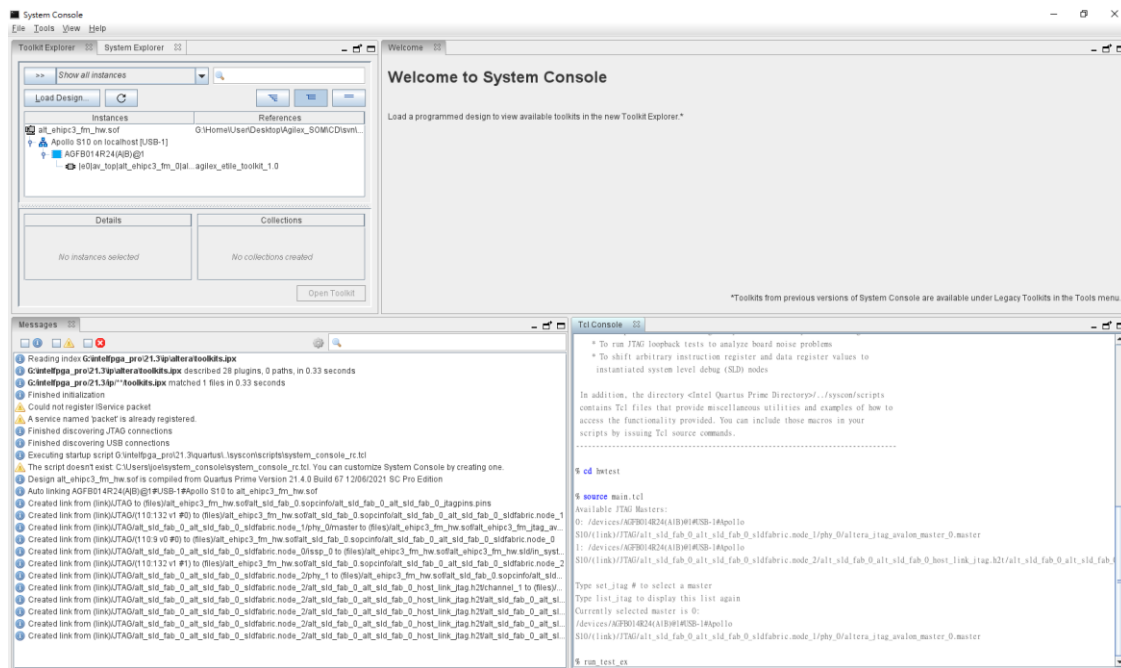

Figure 2-22 Launch the System Console for Ethernet 100G Demo
5. In the System Console window, input the following commands to start the loopback test, as shown in **Figure 2-22**.